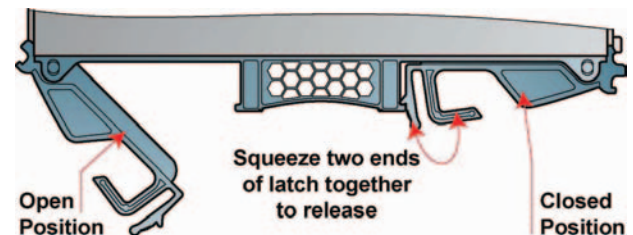

Figure 9: I/O Module Latch
2. With the latch in the open position (see Figure 9), slide the module into the enclosure until the latch engages automatically.